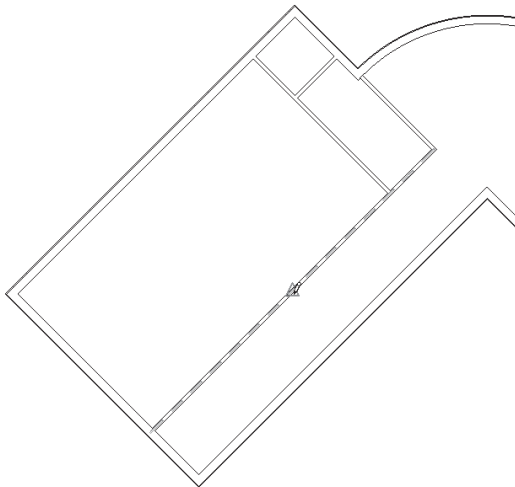

Figure 3-70 Starting the interior wall from the midpoint of the first interior wall
10. To create the next wall, bring the cursor close to the midpoint of the first interior wall until the midpoint object snap appears, as shown in Figure 3-70. Click in the drawing to start the wall.